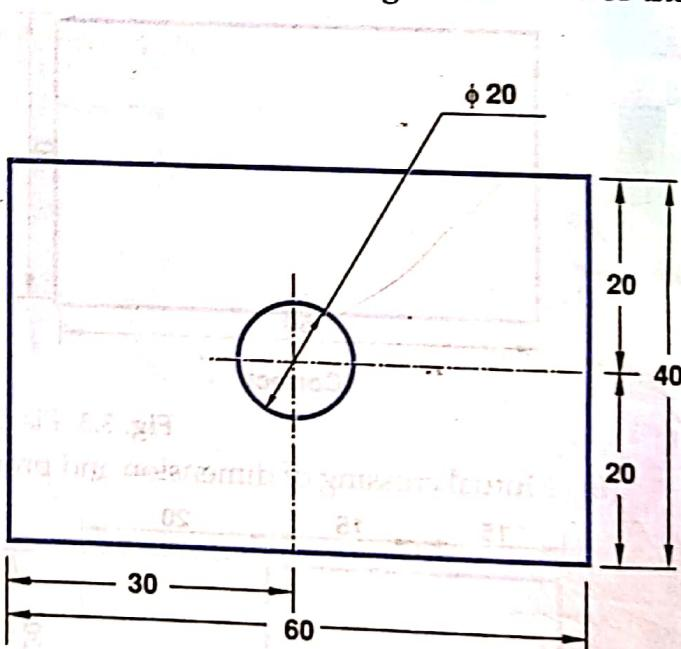

Fig. 3.8 Unidirectional system of dimensioning
- (ii) **Unidirectional system** : In unidirectional system, all the dimensions are placed in one direction such that they may be read from the bottom of the drawing. Also in this system, the dimension lines are broken to insert the dimensions, as shown in Fig. 3.8. This system is mainly used on large drawings as of aircrafts, automobiles etc, where it is inconvenient to read dimensions from the right-hand side.